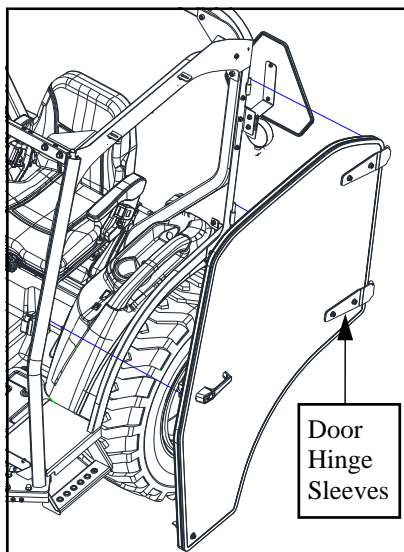

Fig. 6.1
6.1 With assistance, hold the left door perpendicular to the vehicle and lower the door hinge sleeves over the door hinge pins on the hinge plates, per Figure 6.1. **Note: If the hinge sleeves do not line up with hinge pins, loosen factory installed door hinge sleeves until fasteners are finger tight, then repeat this step, aligning the sleeves to pins as necessary.**